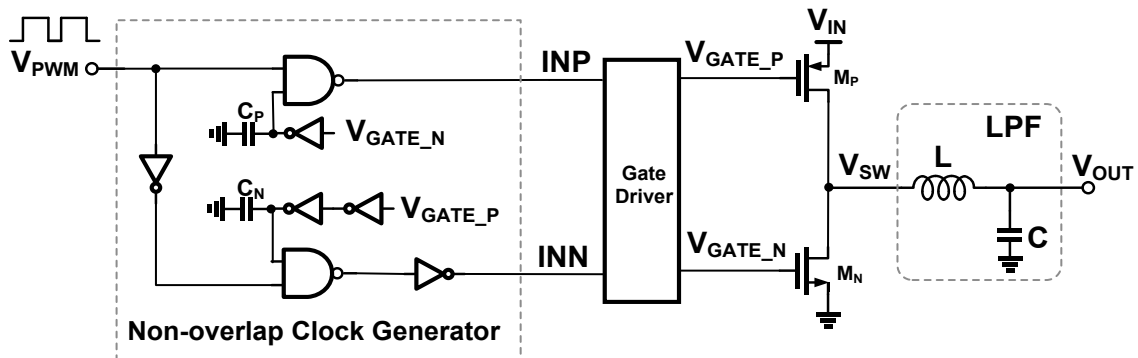

Figure 2-15 Power stage and LPF
1. Design the power stage shown in Figure 2-15 in LTSpice and verify the functionality through simulation.